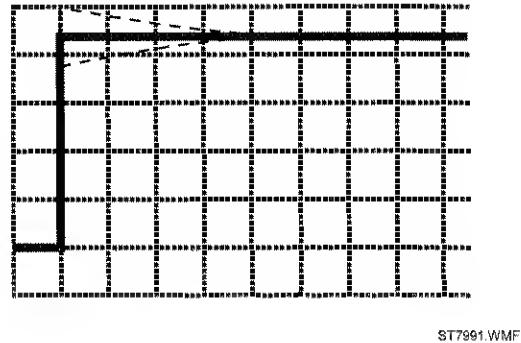

Figure 5-10. 10:1 Probe Calibration
4. Press  to start the probe calibration. A square wave appears on the screen. See Figure 5-10 (the lower half of the screen is covered with operating instructions).